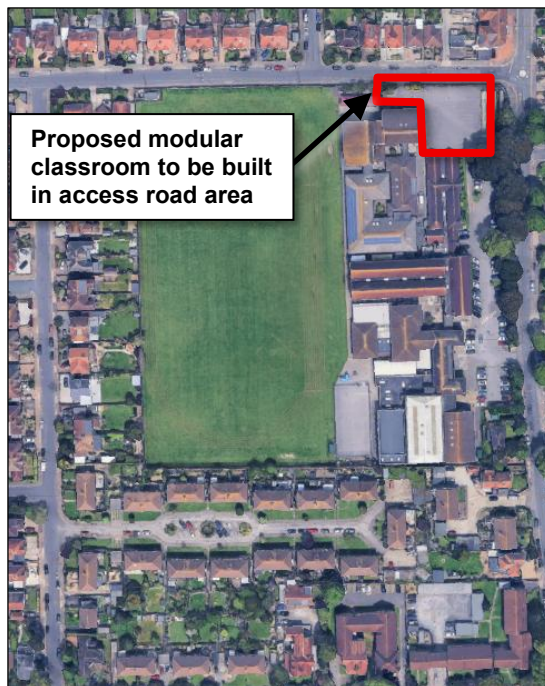
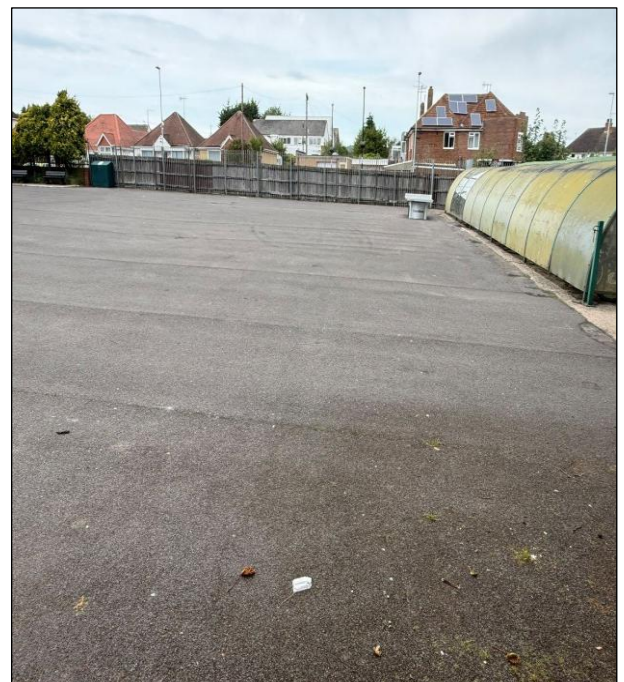

Figure 2.1 Aerial image of site
Figure 2.2 Photograph of proposed classroom location
- 2.4 An aerial image of the location where the replacement classroom is proposed is shown in Figure 2.1 for context, with a photograph of the existing area shown in Figure 2.2. Topographic and sub-surface survey information is included in Appendix A.
- 4.18 As shown in the photograph in Figure 2.2, the development of the existing courtyard area presents an opportunity to add educational and recreational value to the external spaces. The SuDS Planters are particularly suited to a school environment, with many products available featuring interactive elements and information boards that explain the benefits of SuDS and the importance of rainwater as a resource. These add to the amenity of the courtyard space and the new teaching accommodation.